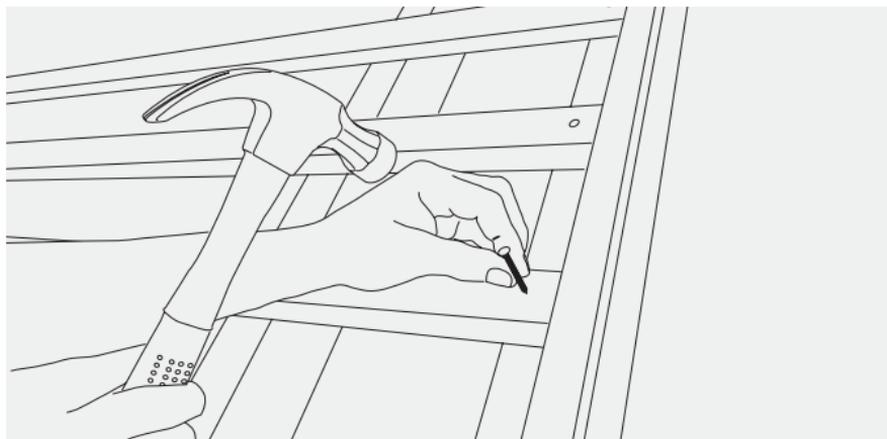

Fig. 47 – Nailing verge units
- 6 Secure the verge extrusion by driving the annular ring shank nails provided through each tiling batten (40mm from the end) into the extrusion (Fig. 47).